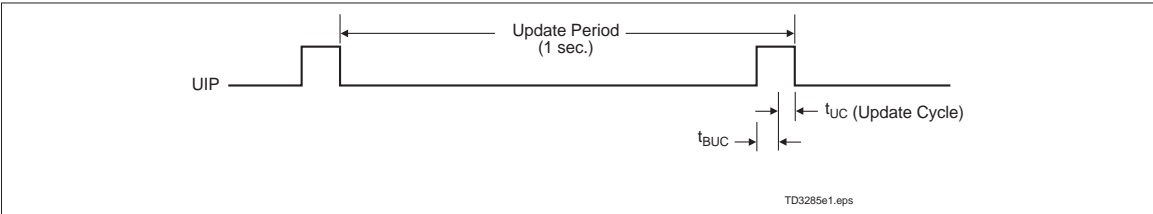

Figure 2. Update Period Timing and UIP
The update period for the bq3285LF is one second. The bq3285LF updates the contents of the clock and calendar locations during the update cycle at the end of each update period (see Figure 2). The alarm flag bit may also be set during the update cycle.
The update-in-progress bit (UIP) in register A is set t_{BUC} time before the beginning of an update cycle (see Figure 2). This bit is cleared and the update-complete flag (UF) is set at the end of the update cycle.